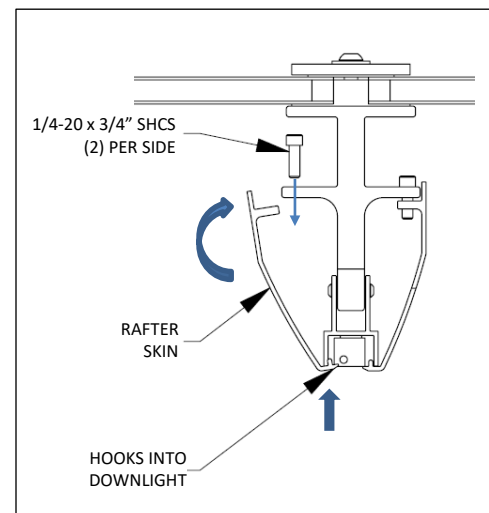

Fig. F6 – install rafter skins
5. Install left and right side rafter skins, with the sharper angle of the skin toward the front of the rafter. See Fig. F6. Rafter skins have a boss on the bottom flange that hooks into the downlight, see Fig. F6. Hook the bottom of the skin into position and then rotate the top of skin up to the rafter beam. Using a 3/16" hex key, install (2) 1/4-20 x 3/4" socket head cap screws, located in hardware pack #62599. Tighten until gap between light and rafter skin is gone and rafter skin does not rattle. Do not overtighten screws.